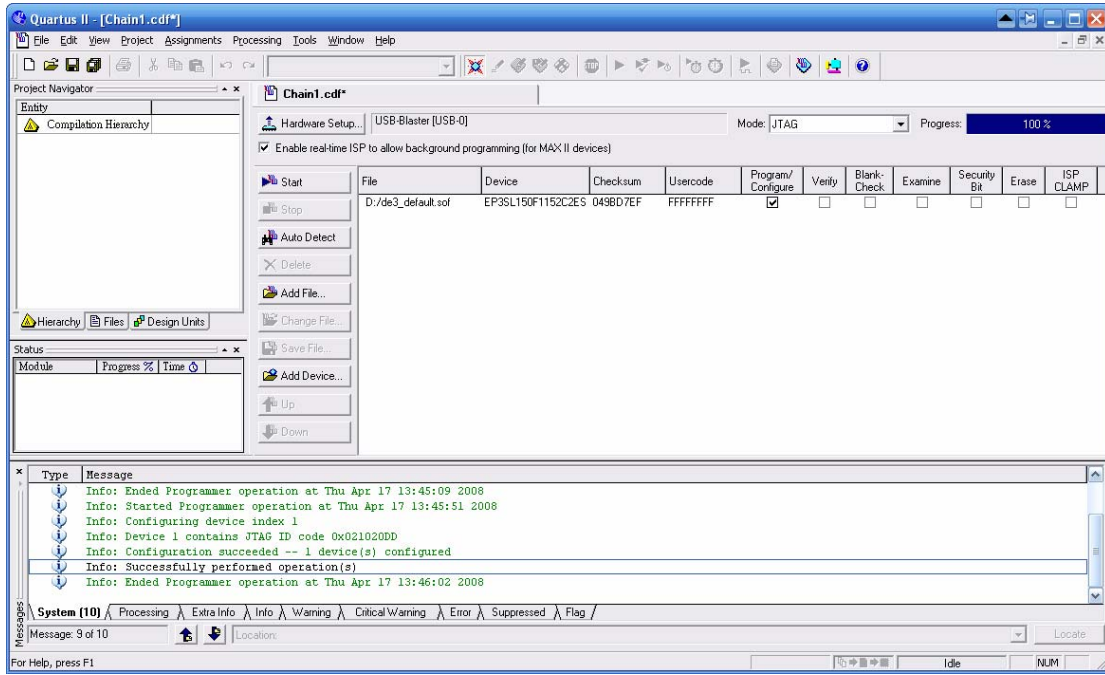

Figure 10. Download complete
- Step 11.** Click **Start**. The file downloads to the development board as shown in Figure 10.